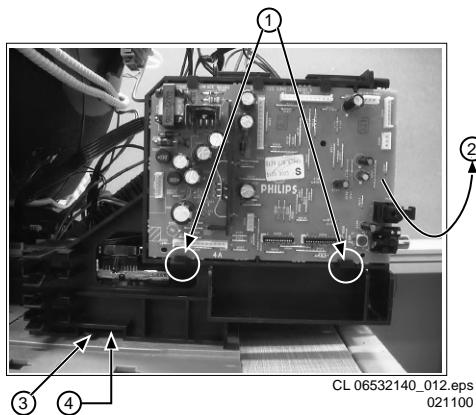

Figure 4-1
For better accessibility of the panel, remove the complete PWB from its bracket. Therefor release the two clamps at the side of the bracket [1] and lift the panel out [2], **Fig. 4-1**. (For measuring safely when the LSP is in service position, remove the bracket from the bottom tray by pulling it backward while lifting the clamp [3]. Then pull it upward [4], **Fig. 4-1** and replace the panel into the bracket.)
- Remove the DVD Interface module from the bottom tray. Therefor lift the clamp [3] and pull the module backward [4], **Fig. 4-1**. Place the module left from the TV. Release the LSP from the bottom tray and shift it slightly to the right, until the DVD Module is accessible.